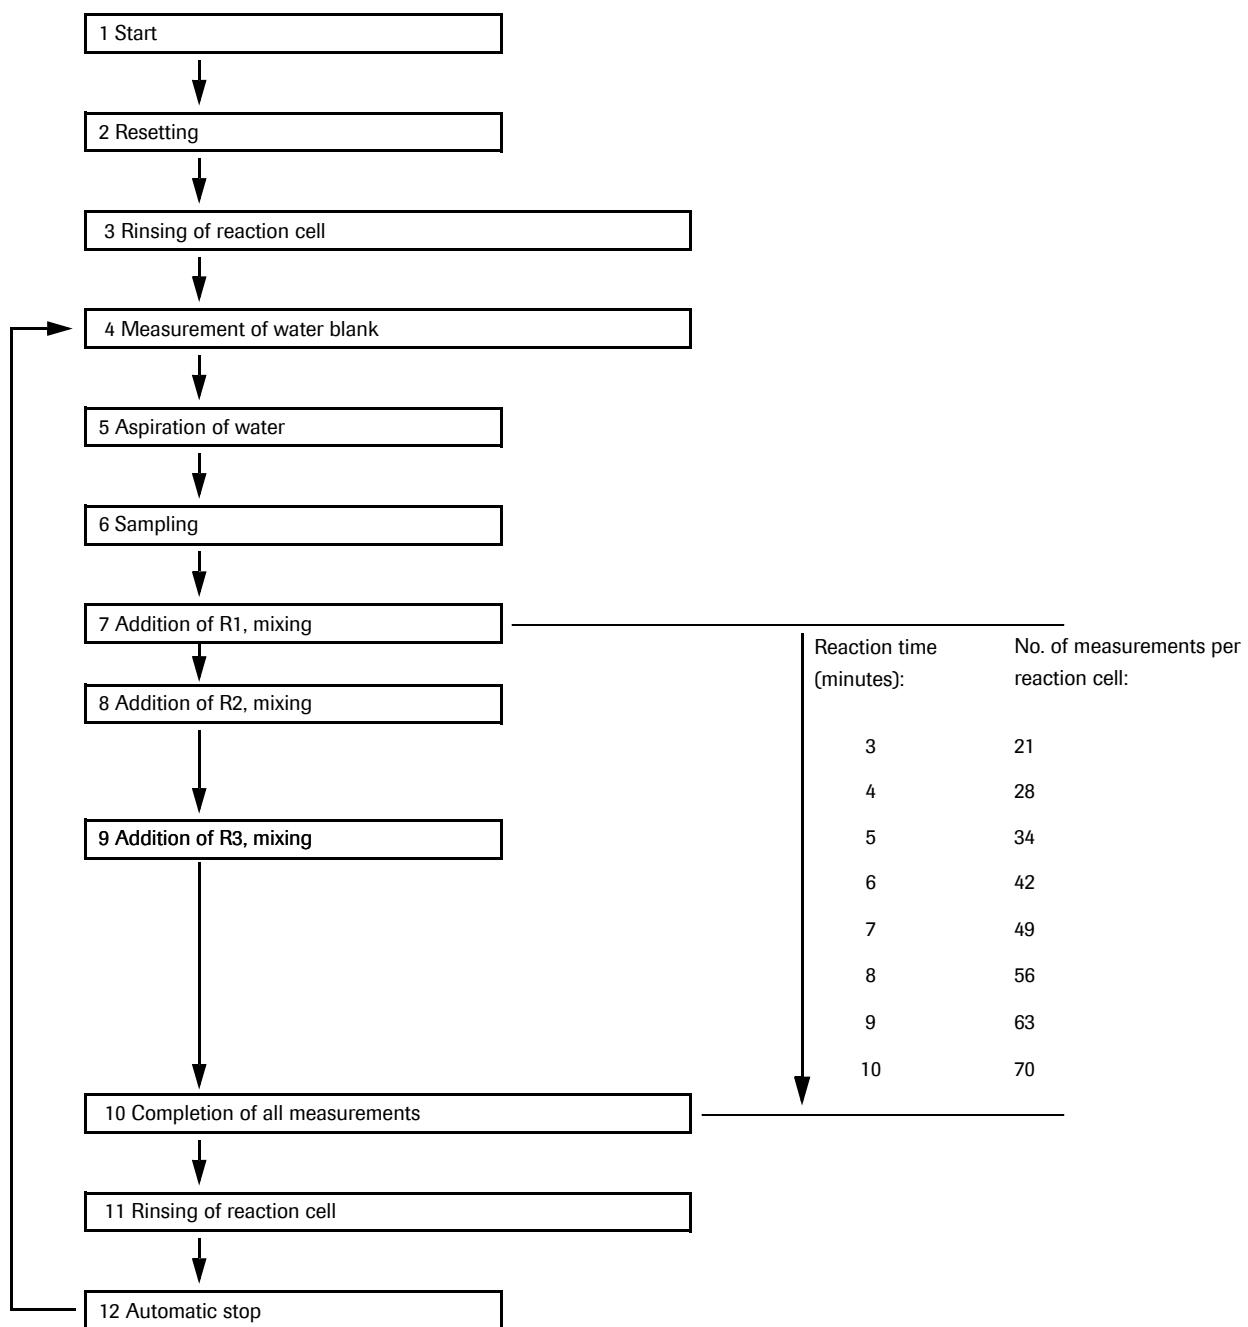

Figure A-40 Flow chart of the photometric analysis
- Figure A-40 on page A-71 shows the main steps of photometric analysis flow